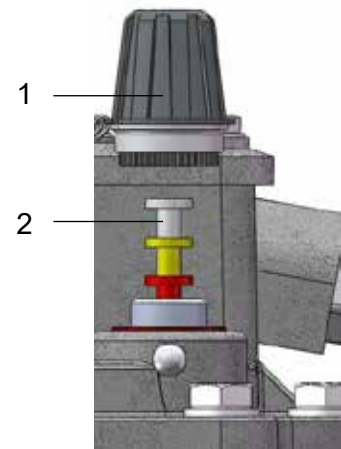

Figure 7b - Test key
- Remove the large cap nut (Fig. 7b/ no. 1)
- Press the test key (Fig. 7b/ no. 2) half down and keep depressed (check of upper switching system - alarm)